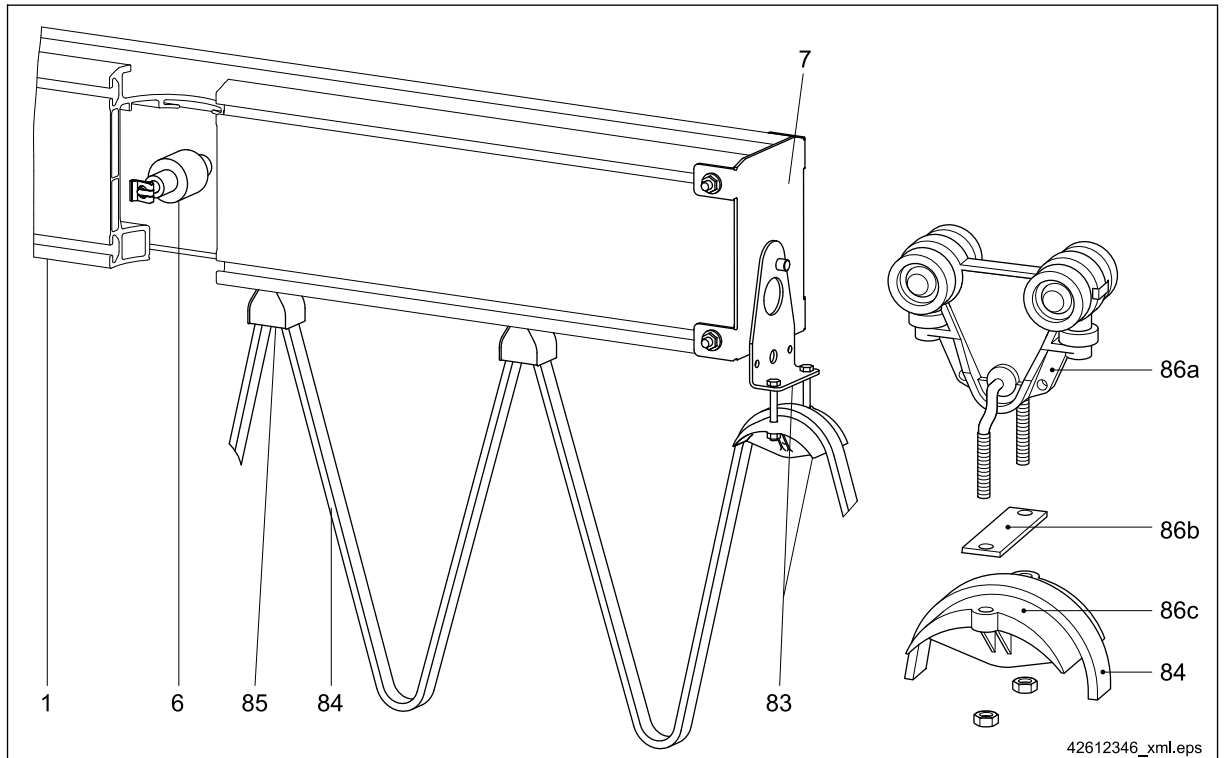

Fig. 64
To prevent collisions with the cable supports, fix an internal buffer stop (6) ⇒ Fig. 64, Page 67 in the track section on the power supply side (for crane tracks and double-girder cranes in both track sections, so that the crane or trolley is buffered on both sides simultaneously).